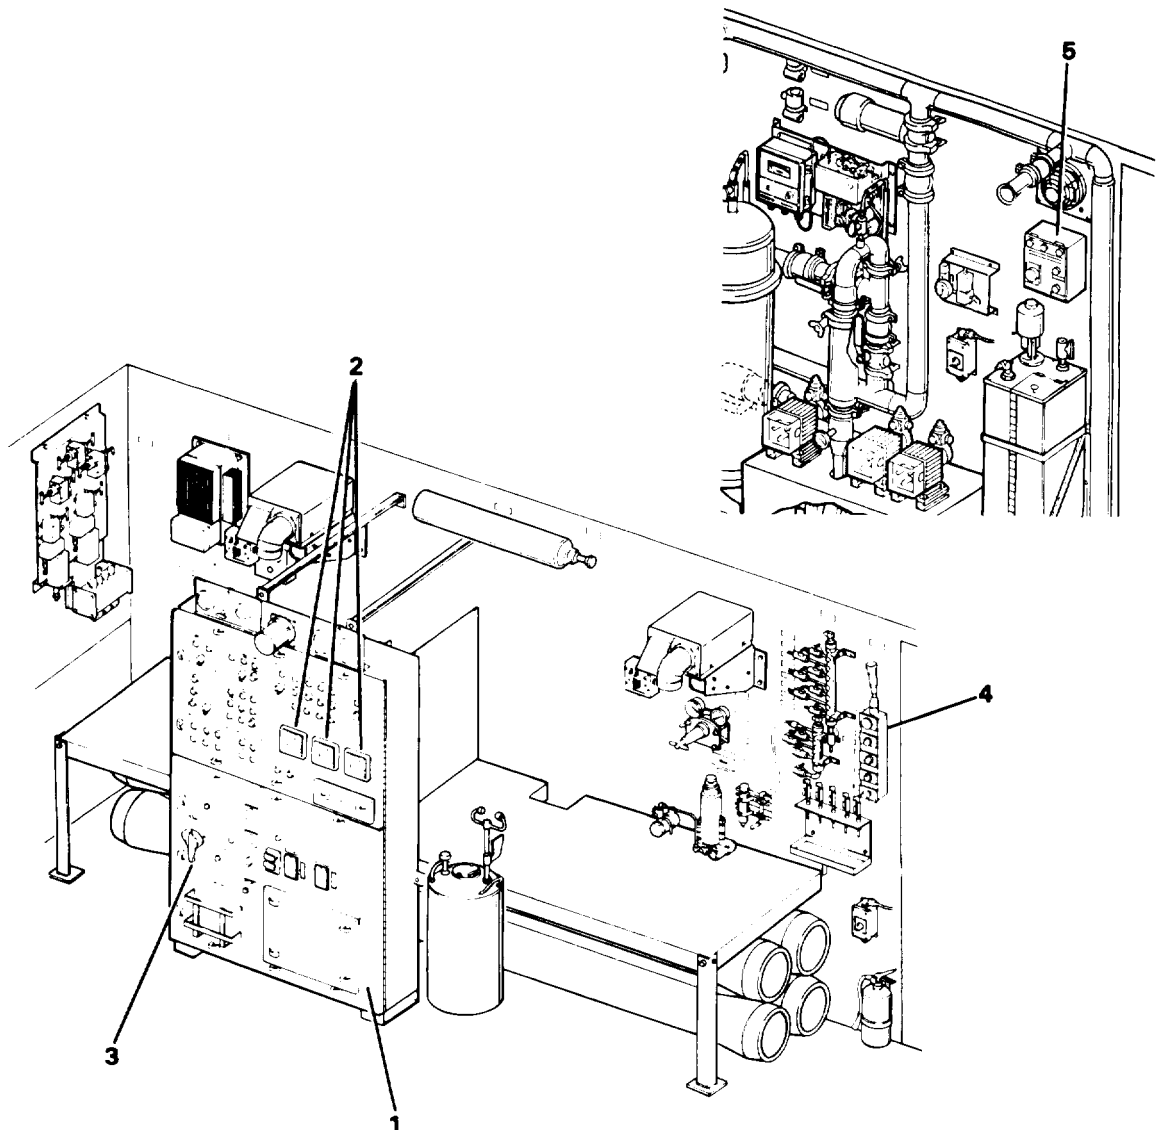

Figure 1-17. Electrical Controls
h. *Electrical Controls (Figure 1-17).*
(1) *Main Control Panel.* Almost all the electrical switching gear, electrical controls, and indicating lights you need to operate the ROWPU are located on the main control panel(1). Flow meters(2) are also mounted in this panel. The main circuit breaker (3) on this panel controls power to all circuits within the ROWPU. Relays and timers are used for control logic. A warning horn sounds and yellow lights go on when operator attention is needed. An alert horn sounds continuously and red lights go on when an automatic shutdown occurs. Blue indicator lights indicate open automatic valves and green lights indicate operating pumps or operating mode.
(2) *Switch Panel No. 1 (4).* This panel contains distribution pump ON/OFF pushbuttons, a distribution pump ON indicator light, a van interior light switch and a utility outlet.
(3) *Switch Panel No. 2 (5).* This contains the warning and alert horns, a van interior light switch, hypochlorite tank mixer ON/OFF switch, vent fan switch, and a utility outlet.